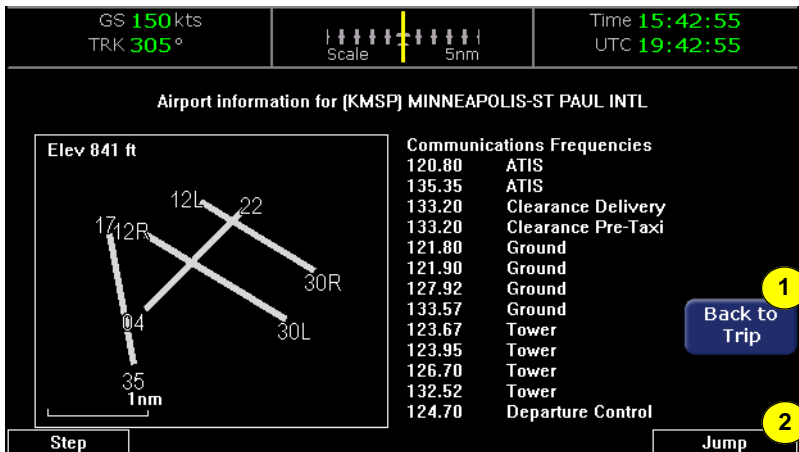

Figure 7.3 Trip Airport Information Page
- 5) **Destination Airport Info** - Provides quick access to airport information for the destination airport. Press Airport Info to display a page similar to Figure 7.3 on page 77.